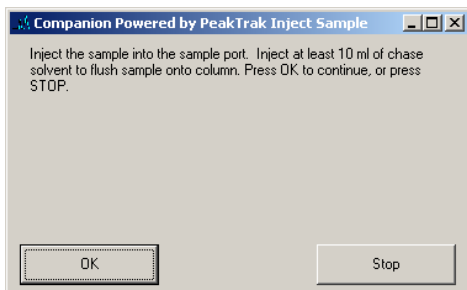

Figure 8-6 Inject Sample display
2. When all settings have been configured, click the Play button to start the run. After column equilibration, the system pauses for the liquid injection (Figure 8-6).